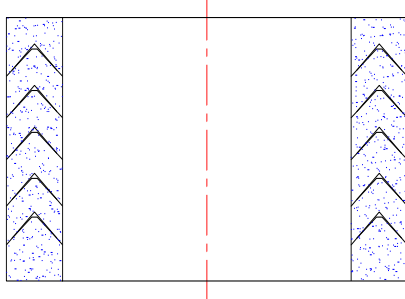

Fig. 18
- For standard applications use configuration as shown in Fig.18.